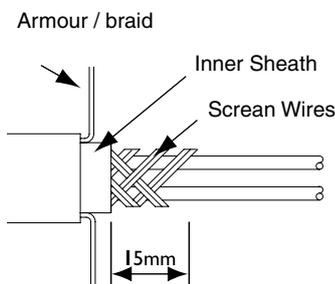

Fig. 1
- 2.2. Remove a further I 5mm of inner sheath (*See Fig. 1*).